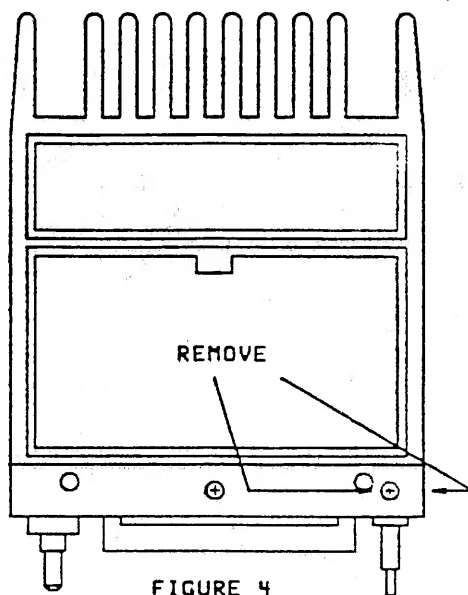

FIGURE 4
8. Remove the brass colored screw that is mounted on the front panel chassis above the Power switch. Figure 4
9. Remove the brass colored screw that is mounted on the front panel chassis to the right of the microphone jack. Figure 4